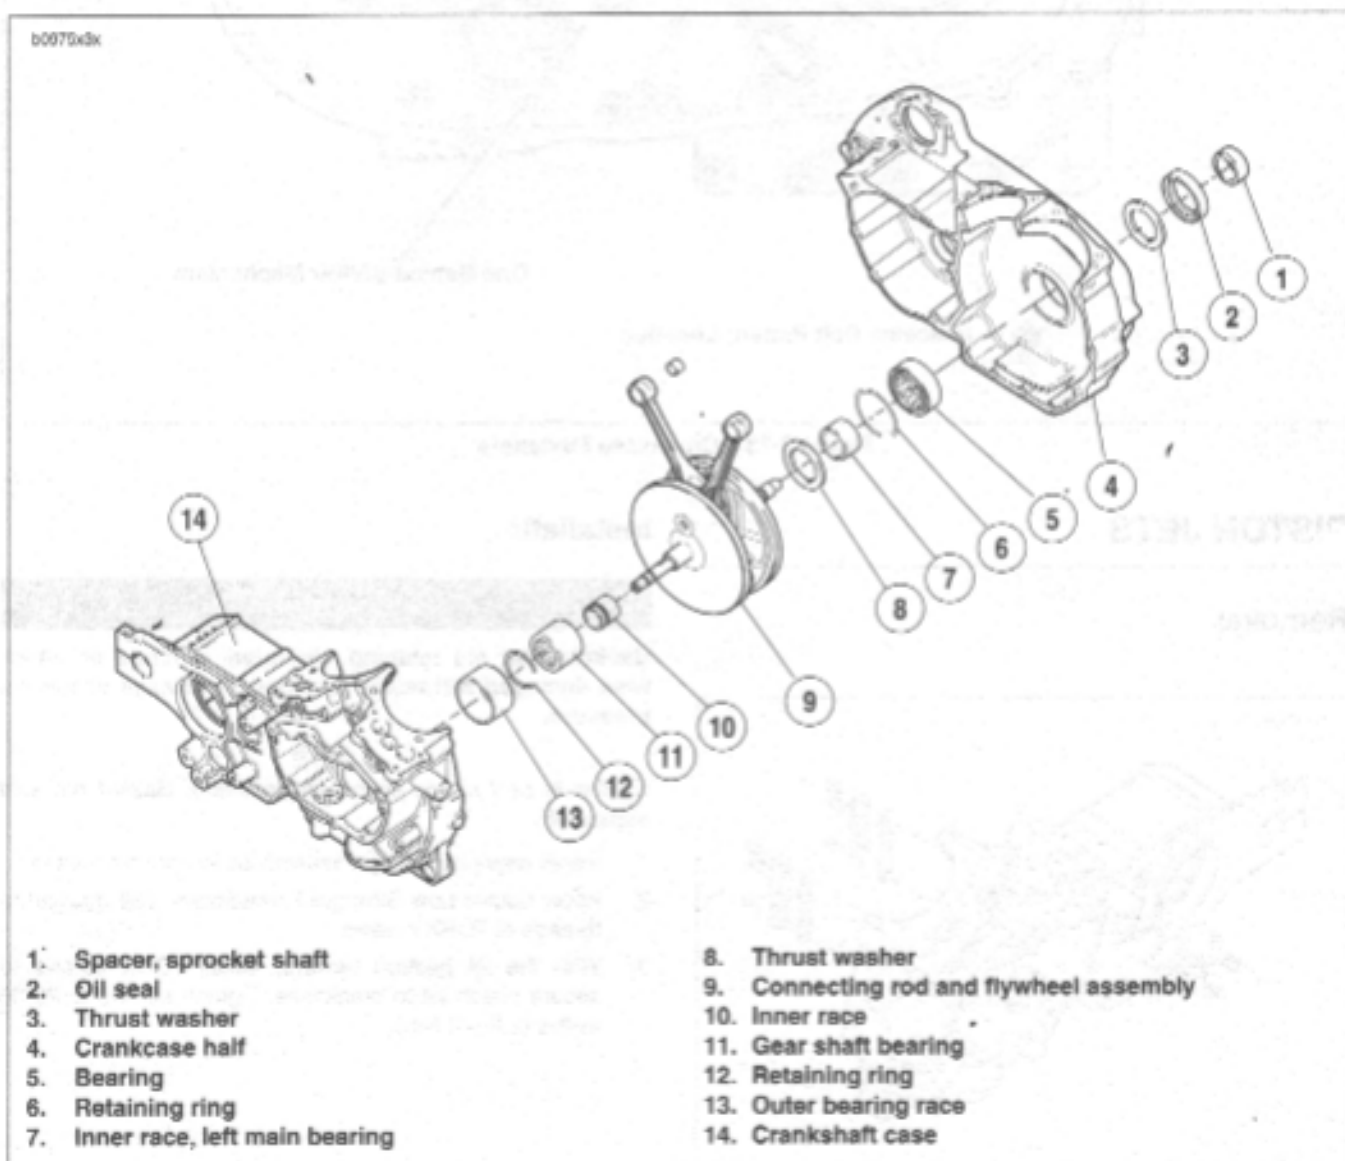

Figure 3-137. Crankcase and Flywheel Assembly
See Figure 3-137. If it is necessary to remove either the pinion shaft bearing or sprocket shaft bearing, proceed as follows:
5. See Figure 3-137. Gear shaft bearing (11) will remain on flywheel pinion shaft. Remove retaining ring (12) and bearing can be slipped off pinion shaft.
7. See Figure 3-137. Remove left main oil seal (2) from crankcase using Snap-On Tool (Part No. CJ 114, Body Dent Puller)
8. Remove outer thrust washer (3) next to left main bearing (5).
See Figure 3-137. A pressed-in bushing in the right crankcase half is the outer race (14). The inner race (10) is pressed onto the pinion shaft.